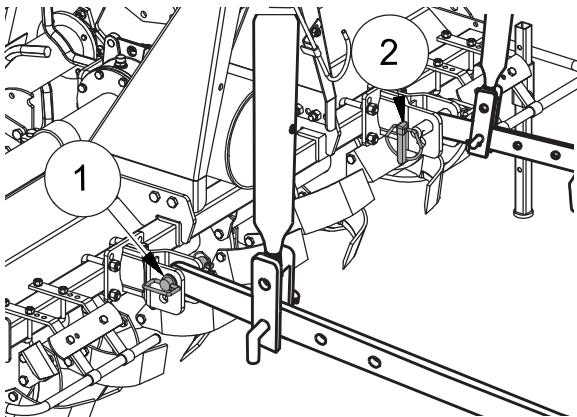

FIG. 20
- Move the power-lift bars to the lower hitches ("Fig. 20"). Insert the attachment pins (1). Fasten the pins with the trigger pins (2) part of standard equipment.